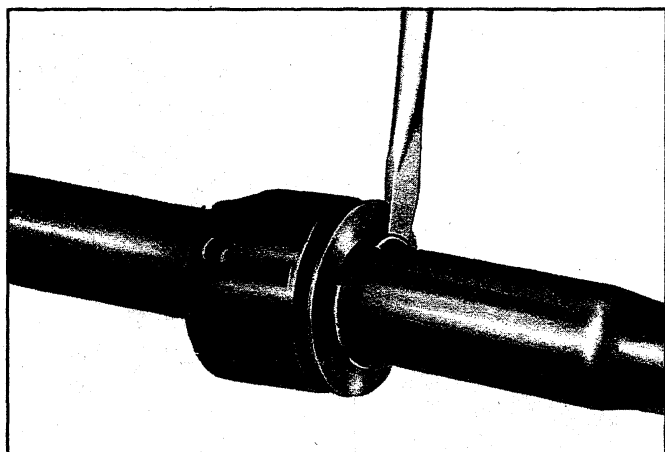

Fig. 55—Removing Lower Bearing Retaining Ring
- Carefully remove lower retaining ring as shown in Figure 55. Remove washer, spring, packing, and